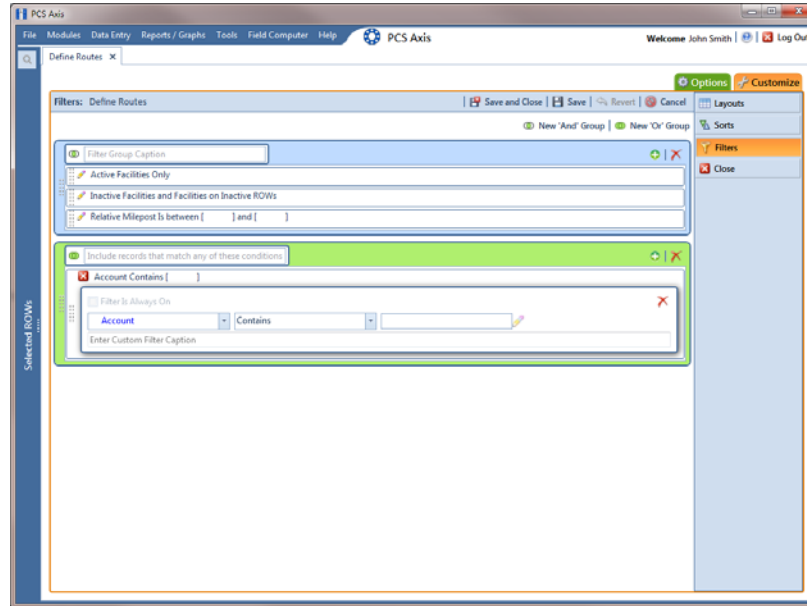

Figure 8-51. Filters
- 4 Click  **New 'Or' Group** to open a filter properties group box (Figure 8-51).